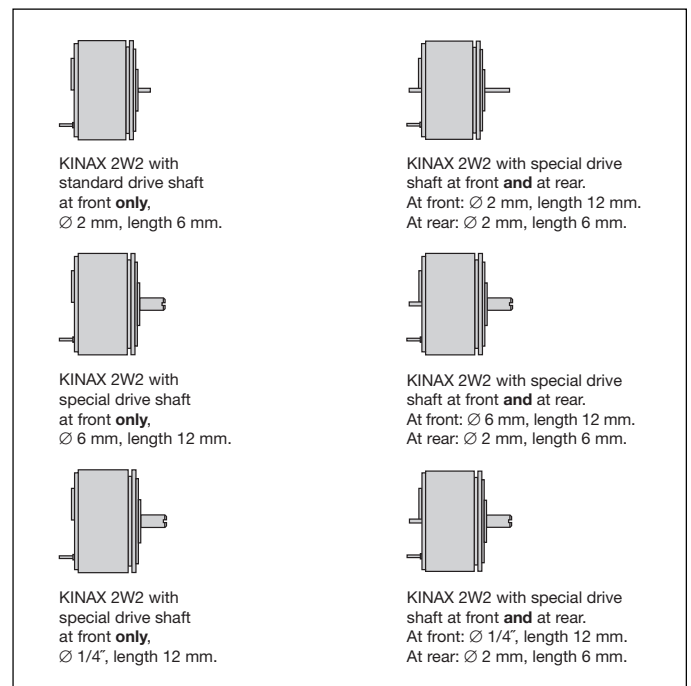

Fig. 1
**Transmitter**, one of the six versions (Fig. 1)